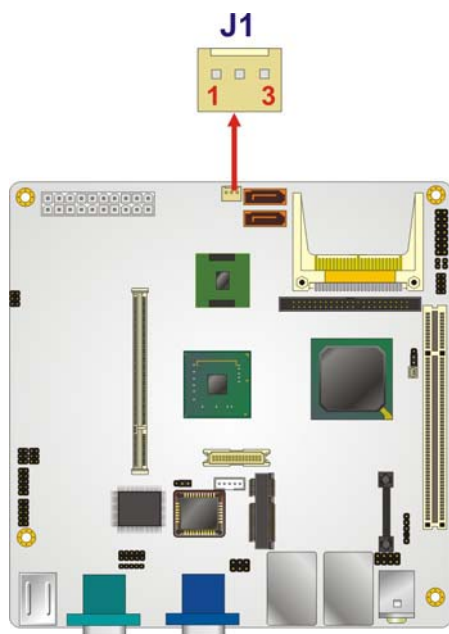

Figure 4-6: CPU Fan Connector Location
- CN Location:** See Figure 4-6